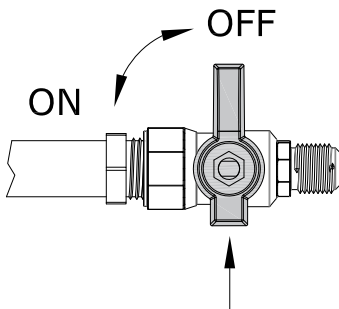

Figure 4.13 - Turn Off Gas
1. First locate the main shut-off valve upstream of the appliance connector and close the valve (Figure 4.13). Then disconnect the electrical power of the fireplace.